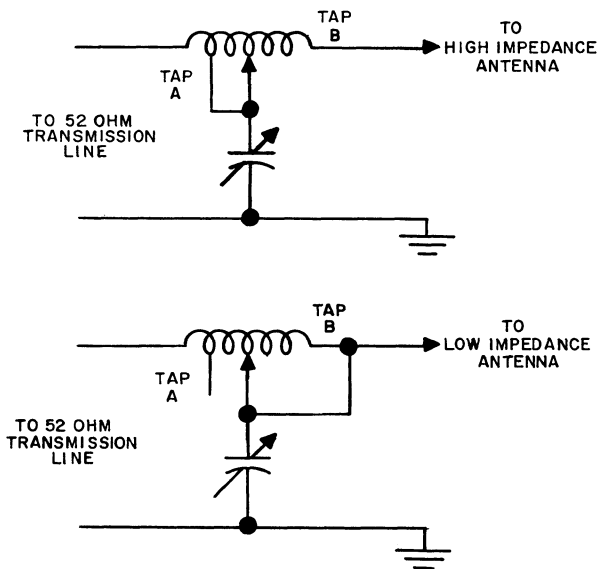
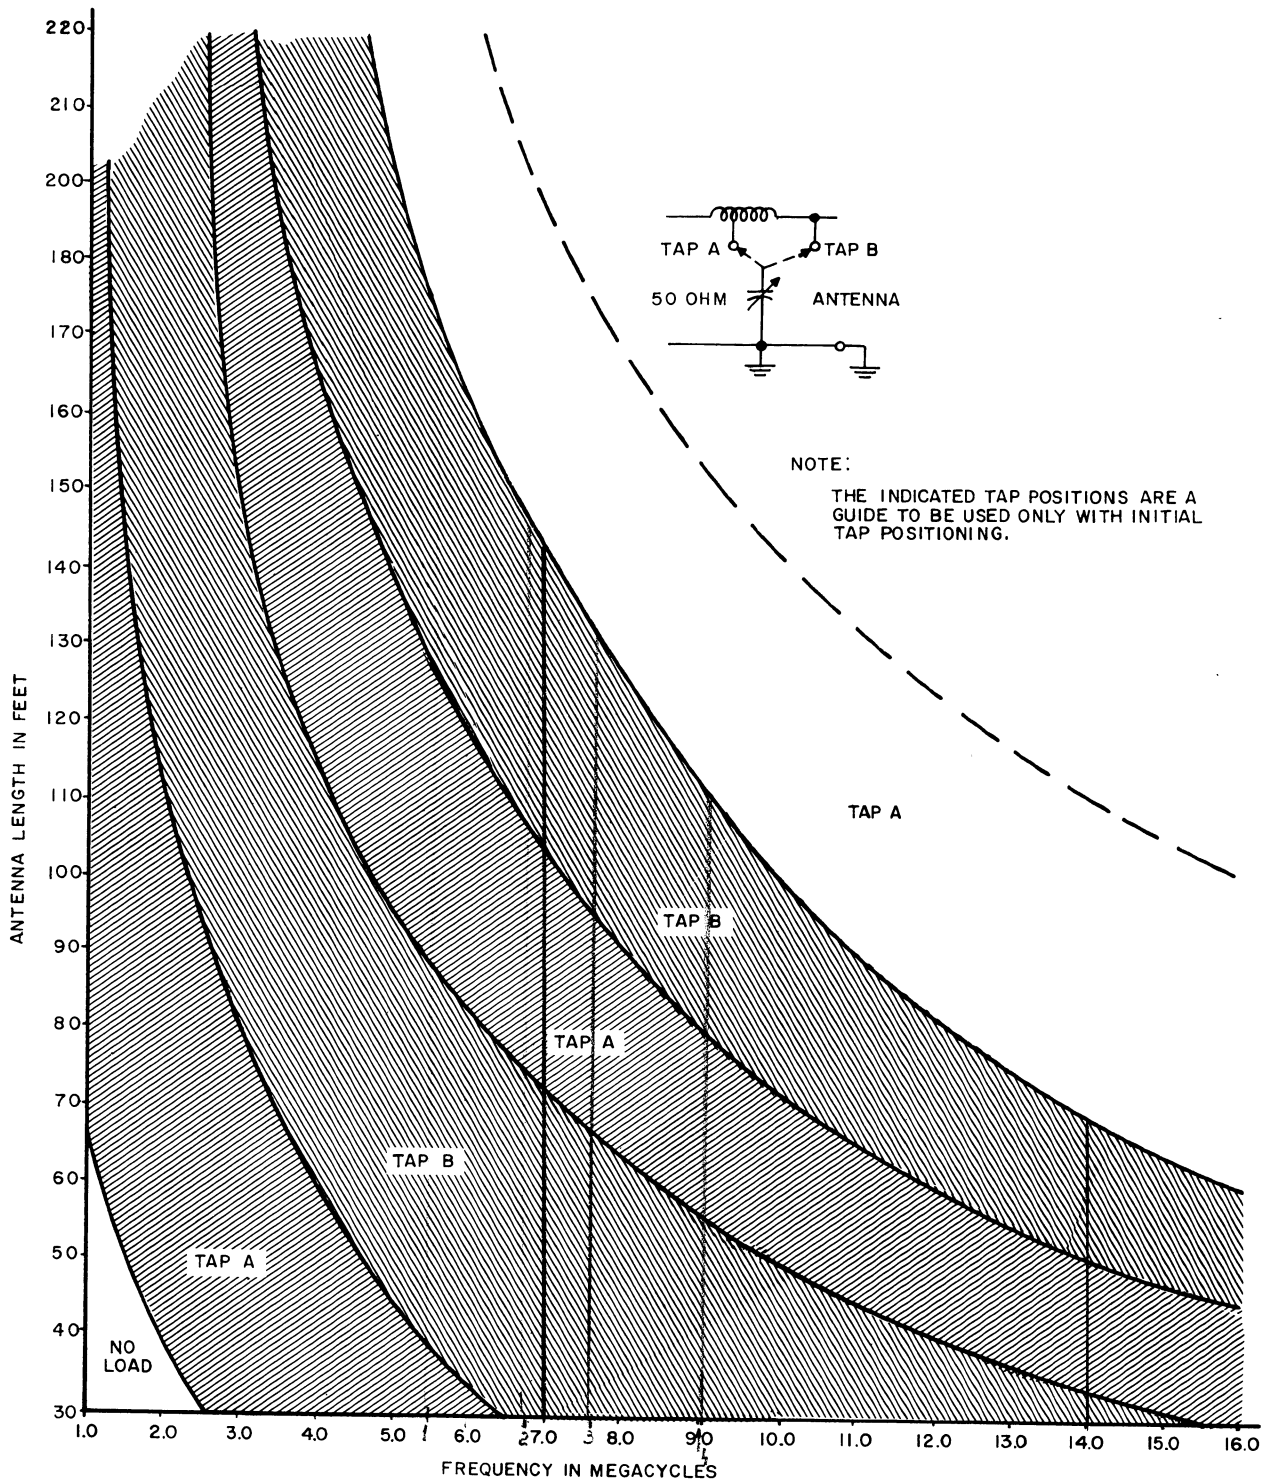

Figure 5. Reversible L-Connections, Simplified Schematic Diagram
Figure 6. Antenna Coupler 180V-2, Tuning Chart
2.3.4 Refer to figure 6 for type of L-connection required for the frequency and type of antenna used. Then, on the 180V-2, solder the required jumper wire between the terminal of S5 and either tap A or tap B as suggested in figure 5. Use the no. 16 solid wire that is provided. If the frequency and antenna length indicate a point in figure 6 that is close to
A schematic diagram of the 180V-2 is illustrated on figure 8. The circuit of the 180V-2 is that of a modified reversible L matching network to allow the use of either a high- or low-impedance antenna. A separate bank of capacitors is used with each of the four channels; however, only one inductor is required. Two inductor taps must be fixed for each channel used. As illustrated in figure 5, one inductor tap is fixed to either of two special tapping positions, taps A and B. Tap positions A and B determine whether a capacitor output type of L-connection is used. The small residual inductance is used with tap A so that a 50-ohm
The type of L-connection to be used with any particular antenna is determined by the operating frequency and will change with operating frequency. Figure 6 is a chart provided to help determine which type of L-connection to use with any antenna at any frequency. It should be remembered that the chart figures are only approximate and that final selection of L-connection is determined through actual tuning procedures.